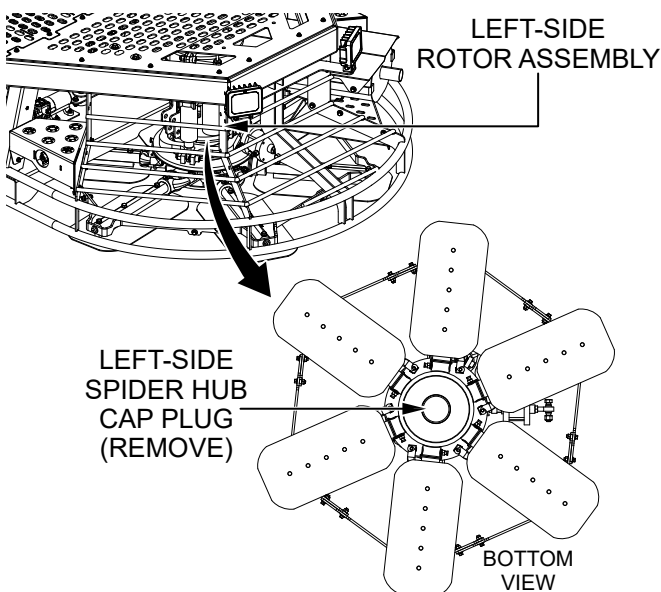

Figure 54. Remove Left-Side Spider Hub Cap Plug
2. Remove the left-side **spider hub cap plug** (Figure 54) and set it aside.